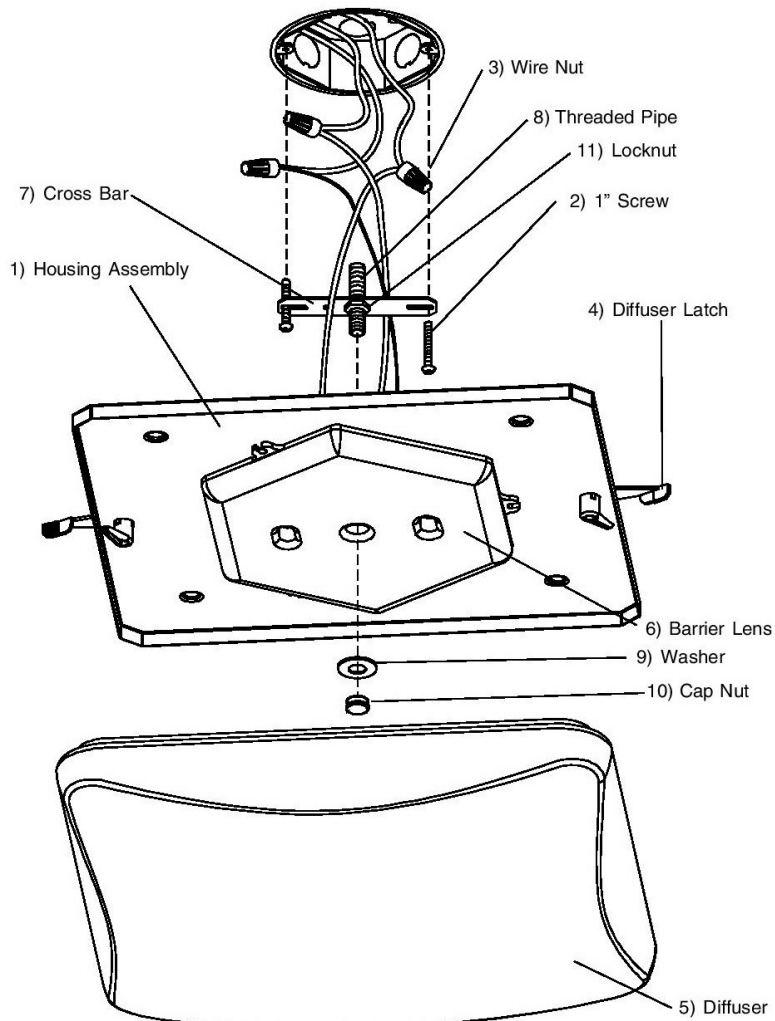

Figure 1
4. **With the power turned off, hold the fixture Housing Assembly (1)** firmly and connect the green ground wire from the fixture to the bare copper ground wire from the junction box using a Wirenut (3). *(If house wiring does not include a ground wire, consult your local electrical code for approved grounding methods).* **See Fig. 1.**
5. **Use Wirenuts (3) to connect black fixture wire** to the black power supply wire and white fixture wire to the white power supply wire. **See Fig. 1.**
6. **Hold Housing Assembly (1) in one hand and with the other hand** position wires up and into outlet box.
7. **Align Threaded Rod (8) with center hole on Housing.** Push Housing Assembly (1) to ceiling surface. Install Washer (9) onto Rod (8) and secure fixture with Cap Nut (10).